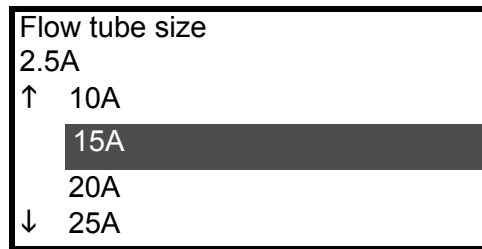

Figure 17 Selecting a detector diameter
- When the display as shown in Figure 17 appears, use the up/down arrow keys to select a detector diameter. After making a selection, press F4 (ENTER) to return to the Sensor Config menu. If F3 (ESC) is pressed here, the change will be aborted and the display will return back to the basic setup menu.